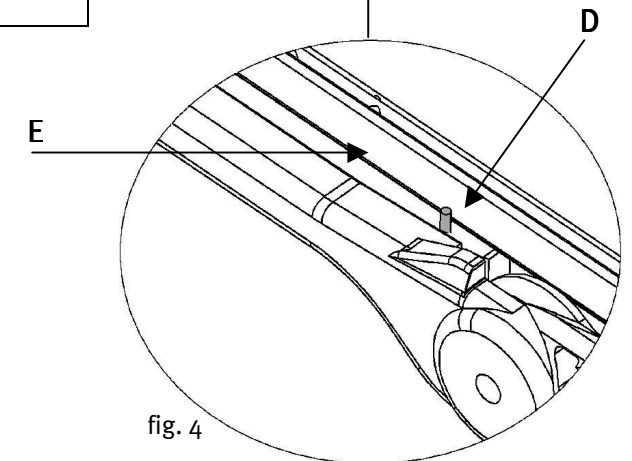

fig. 4
2. To connect the side rails permanent with the bed you have to add two cylinder bolts per side rail. Insert the cylinder bolts in the pre-drilled holes. Beat from top down with an arbor and a hammer on the cylinder bolt, as long as this flushes with the guidance of the side rail (fig. 4, Point E).